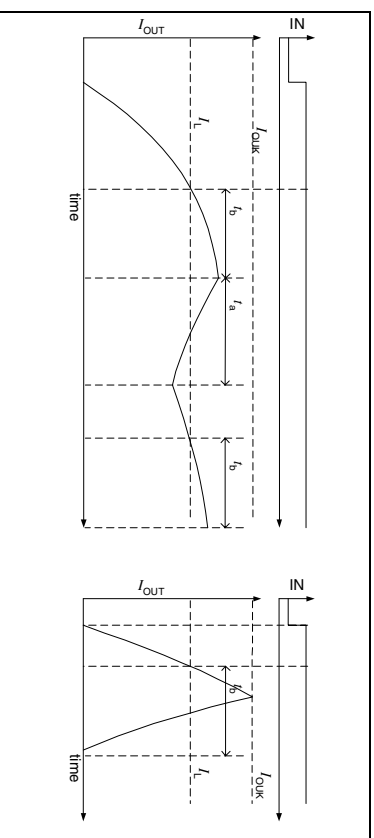

Figure 5 Short to  $V_S$  detection. Left: normal operation. Right: short circuit is detected
Due to the chopper current regulation, the low-side switches are already protected against a short to the supply voltage. To be able to distinguish a short circuit from normal current limit operation, the current limitation is deactivated for the blanking time  $t_b$  after the current has exceeded the current limit threshold  $I_L$ . If the short circuit detection current  $I_{OUC}$  is reached within this blanking time, a short circuit is detected (see Figure 5). All output transistors are turned OFF and the according error bit "Short Circuit to Battery on output 1 (2)", SCB1 (SCB2) is set.